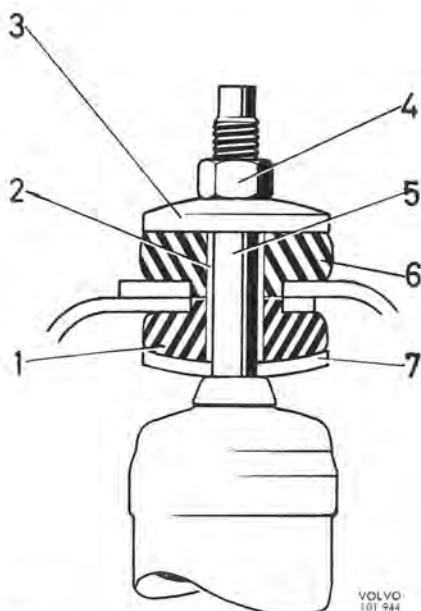

Fig. 7-8. Upper attachment, front shock absorber
3. Check the rubber bush and lower washer (1, and 7, Fig. 7-8) of the upper shock absorber attachment. Place the shock absorber in position and tighten its attachment.
The front shock absorber upper attachment (Fig. 7-8) consists of a spindle (5), which with upper bushes (1 and 6), washers (3 and 7) and a spacing sleeve, are fixed into a housing in the front axle member.
1. Remove the upper nut (4, Fig. 7-8), the washer (3) and the rubber bush (6).